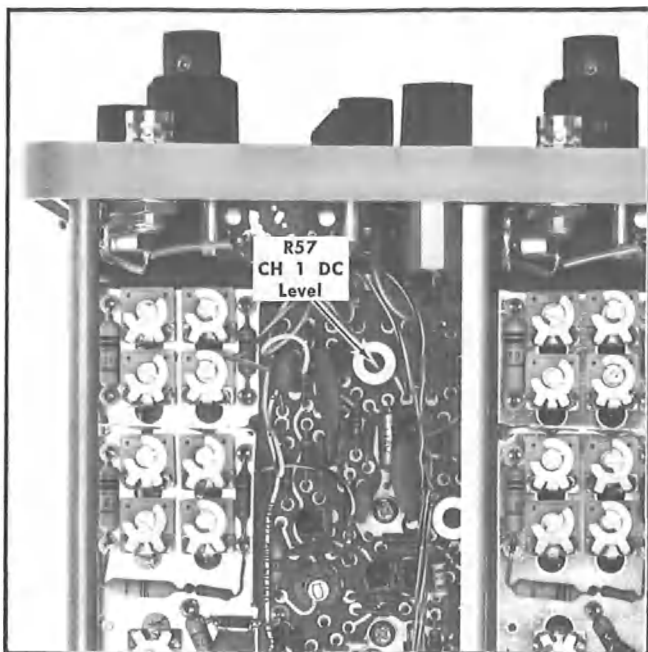

Fig. 5-20. Location of CH 1 DC Level adjustment (Channel 1 Input Amplifier board).
j. ADJUST—CH 1 DC Level adjustment R57 (see Fig. 5-20) to position the test oscilloscope trace to the center horizontal line.